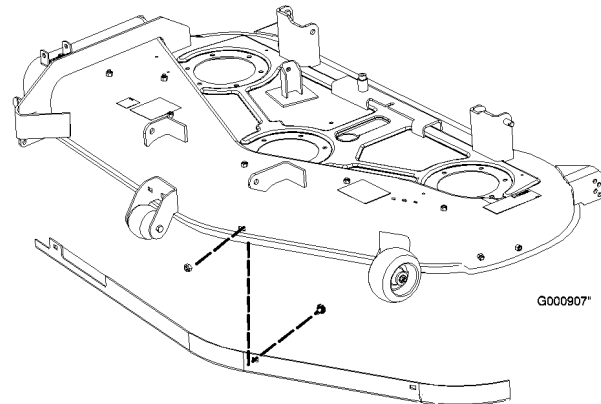

Figure 19
- Remove the carriage bolts and locknuts securing the front baffle to the deck (Figure 19). Remove the front baffle to gain access to the right side Recycler® baffle.
6. Replace the front baffle and secure it to the deck (Figure 19) using the fasteners removed previously.
2. Remove the carriage bolts and locknuts securing the front baffle to the deck (Figure 19). Remove the front baffle to install the right side Recycler® baffle.